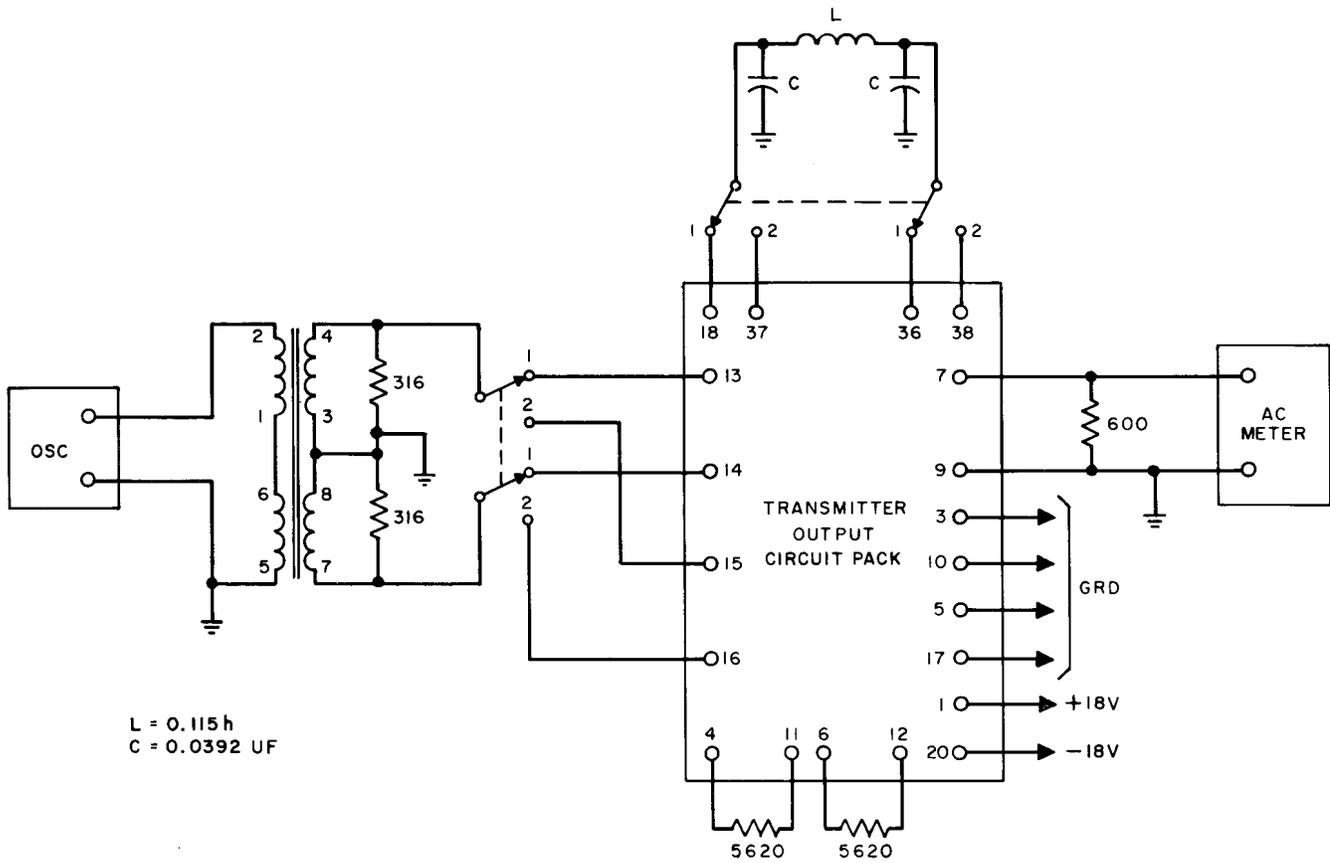

Fig. 38A — Transmitter Output Test Circuit
(1) Connect the circuit pack to the suggested test circuit shown in Fig. 38A. Frequency of oscillator shall be 1800 Hz (± 5 percent).